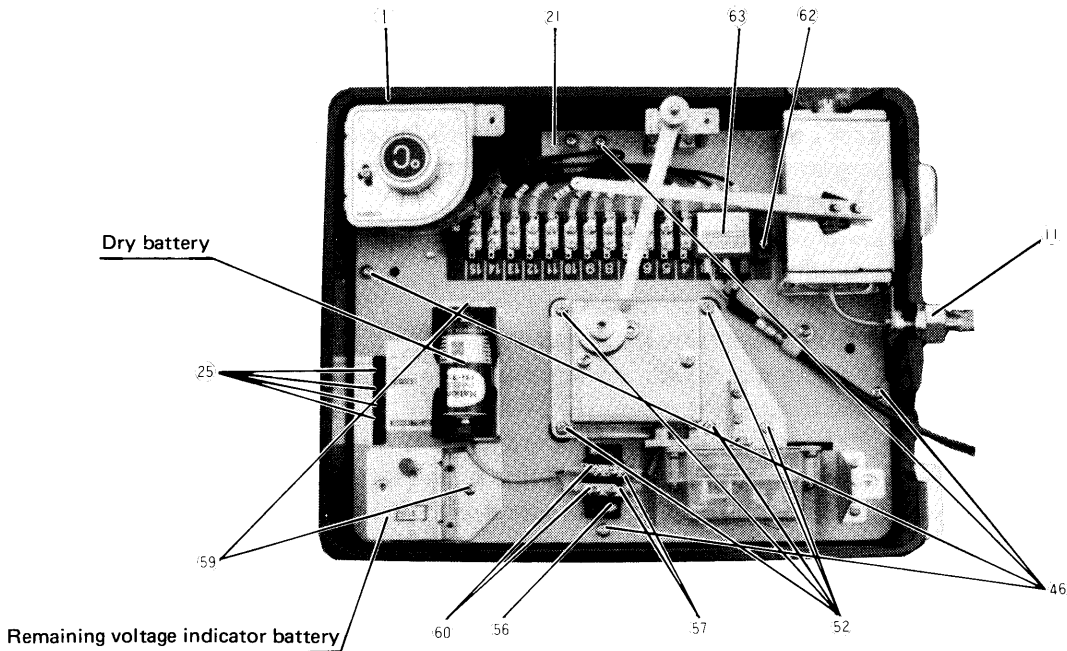
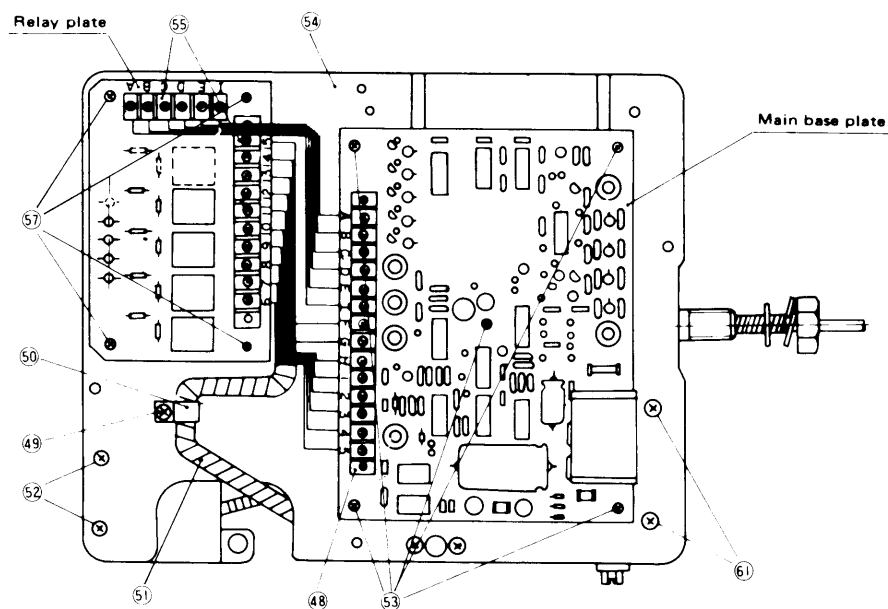

Fig. 3 Internal structure
Fig. 4 Internal device assembly
- (1) Remove the recording plate from the body (1) (See Article b.2.①) When it is removed, it looks as shown in Fig. 3. In this state, sensor, timer, remaining voltage indicator and battery and dry battery are replaced.
- (2) Remove the internal device assembly. Loosen four hexagonal nuts (11) and screws (46) and remove the internal device assembly from the main body (1) and turn it back. Then it looks as shown in Fig. 4.
(2) Measuring resistance of the volume setter
- Adjust the volume setter as shown in Fig. 4 in accordance with Article d.1.
- Remove the lead wires (3 pcs, F. G. H.) which are laid from the volume setter from the terminal (48) (14P) on the terminal strip of the main base plate and measure resistance between G and H of the lead wires.
(3) Replacing points
- From the state of the volume setter as shown in Fig. 4, loosen screw (49), remove power source plug (50), remove the spiral tube (51) from the wires. Then remove two screw bolts (52) and the volume setter can be removed from the base (54).
- After replacing the volume setter with a new one, inspect and adjust it in accordance with Articles c.1. ① and c.1. ②
② Main base plate
(1) Replacing standards
- In case the volume setter shows the phenomena as stated in Article d.2. ① Replacing standards and yet it has no trouble or the same phenomena take place after replacing the volume setter.
(2) Replacing points
- Remove the wires (14 pcs Nos A ~ H, 1 ~ 5) from the terminal strip (48) on the main base plate.
- Remove 5 screws (53) to remove the base (54) from the main base plate, so replace it with new one.
③ Relay base
- Adjust it as shown in Fig. 4 in accordance with Article d.1.
- Remove the wires (16 pcs No. A ~ E, I, 6 ~ 15) from the terminal strip (55) on the relay base plate.
- Loosen four screws (57), and the relay base plate can be removed from the base (54). So replace the relay base plate with a new one.
④ Sensor
- In case the pilot lamps for functioning temperature (25) remain unlit although the power source is turned on.
- Remove the recording board, (state shown in Fig. 3). Loosen the screws (62) to remove protection board for impressed voltage (63) loosen terminal screws (Nos. 1 to 3) on the terminal strip (21) and remove the wiring. Then, measure temperature of the feeler part and resistance of the sensor and compare them with the characteristics of temperature resistance shown in Fig. 10, and if they do not accord with them, replace the sensor. If they accord, the main base plate or the volume setter is out of order. So replace it in accordance with Articles d.2. ① and d.2. ②
(2) Replacing method
- Since numbers (1, 2, 3. . .) are described on the sensor lead wires, so connect them to the terminals having the same number on the terminal strip (21).
- After replacement, inspect and adjust the sensor in accordance with Articles c.1. ① and c.1. ②
- Replace the recording board, and insert a battery so as not make a mistake in polarity as in the state of Fig. 3 (Fig. 3 shows polarity of a battery). It is advisable to use a battery similar to SUM-2 of JIS C8501 and R14 of IEC. (Dry battery DC1.5V)
② Remaining voltage indicator battery
- Remove the recording board (state shown in Fig. 3). Loosen two screw bolts (59) and two screw bolts (60), and the remaining voltage indicator battery can be removed from the indicator body. So replace it with a new battery.
- When replacing, connect the wires to the terminal strip (56) in a way red wire to red and black wire to black.
③ Timer (Quartz motor reducing gears)
- Although remaining voltage of dry battery is correct (confirmed in accordance with Article b.2. ③) the quartz motor does not start.